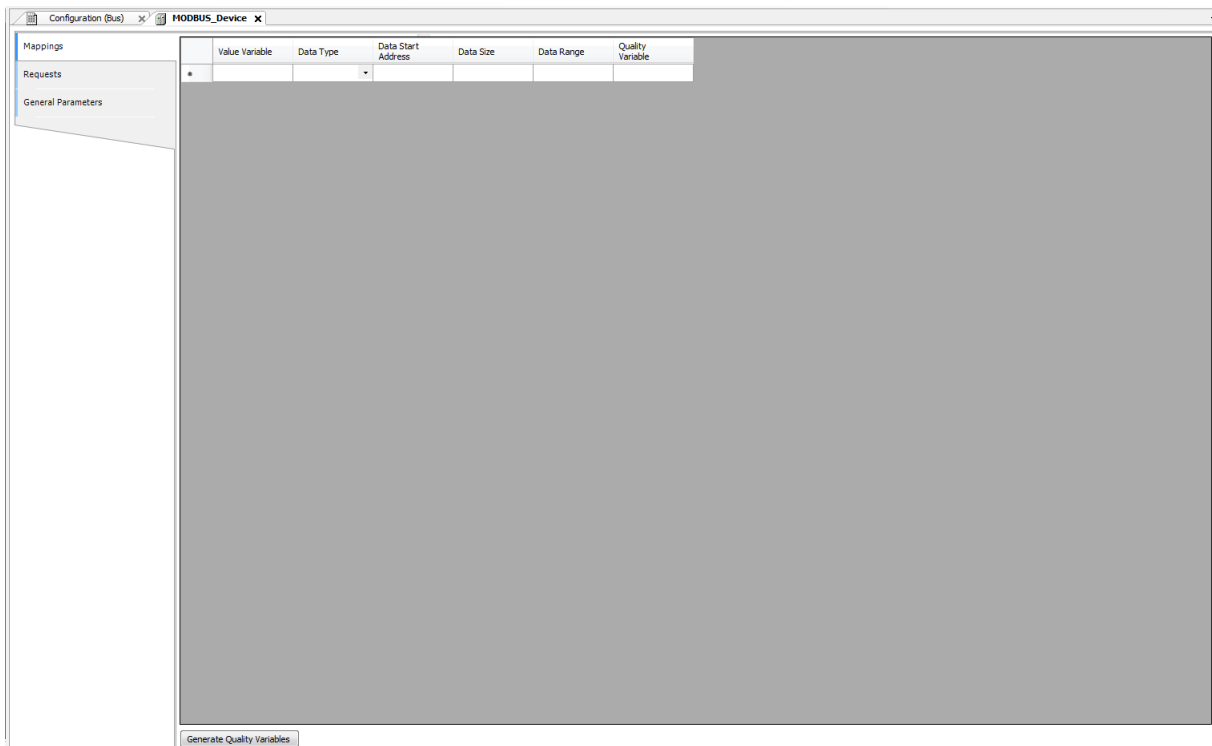

Figure 84: MODBUS Data Mappings Screen
- Add and configure the MODBUS mappings on Mappings tab as Figure 84, specifying the variable name, data type, and the data initial address, the data size and range are filled automatically.